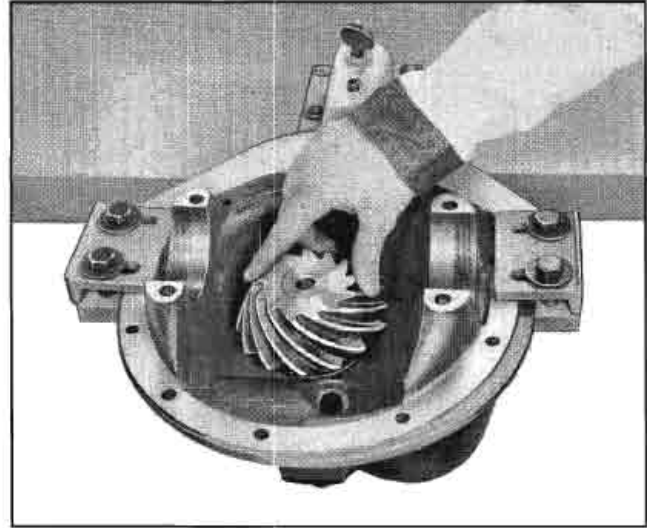

Fig. 4-36 Checking Pinion Rear Bearing for Roughness
10. Before removing pinion gear from carrier, oil pinion bearings with engine oil and turn pinion several revolutions, (Fig. 4-36). If pinion turns smoothly, a visual inspection of the pinion bearings, after pinion has been removed, will be sufficient.
24. Position drive pinion, with rear bearing assembly installed, in rear bearing outer race in carrier and rotate pinion while exerting pressure on bearing (Fig. 4-36).